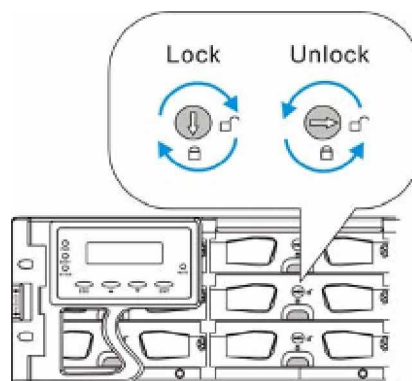

Figure 2-8: Drive Tray Key-Lock Rotation
Step 5. Lock the flap into place by turning the key-lock until the groove on its face is pointing down (vertical orientation). (See *Figure 2-8*)